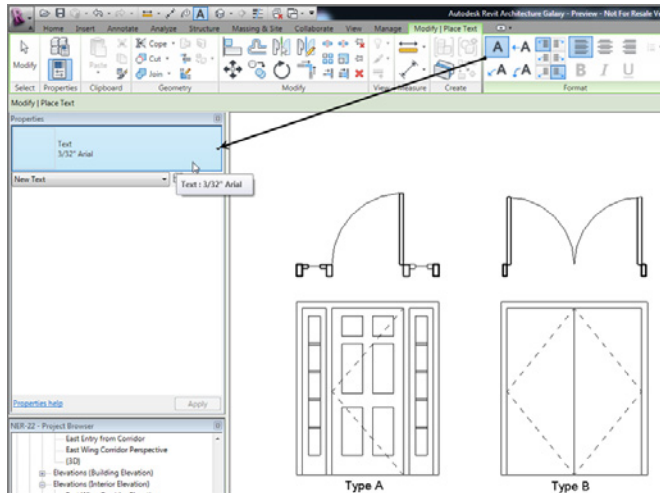

FIGURE 11.45: Placing text underneath the doors
2. Make sure the text style is Text: 3/32" Arial and that the leader is set to None, as shown in Figure 11.45.
3. Place some text centered under each door elevation, and label the doors **Type A** and **Type B** (see Figure 11.45).